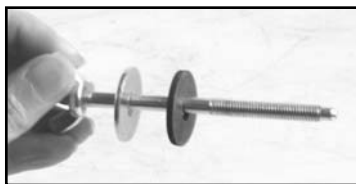

Fig. 2
- 6) Apply the steel washer and rubber washer onto the stock wing bolt and insert it through the XStream® top. (Fig. 2)